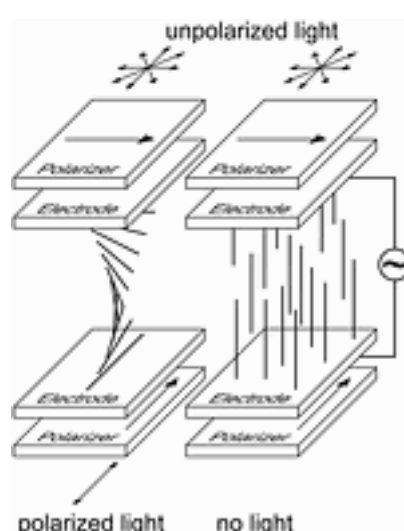

Figure 1. Basic
Properties of liquid crystal materials were discovered in 1888 by an Austrian botanist, F. Renitzer. These materials were not suitable for commercial use however. The first nematic crystals which retained their properties even at room temperatures were developed in the 1960s, but the real breakthrough came when cyanobiphenyl materials were discovered. These have large positive dielectric anisotropy and a strong birefringence, which makes them almost ideal for the twist cell. The most common LCD is called the twisted nematic (TN) display. This display consists of a nematic liquid crystal sandwiched between two glass plates. The inner glass surfaces are coated with a transparent metal oxide film which acts as an electrode used to apply voltages across the cells. A polymer alignment layer is placed on top of the electrodes and microscopic grooves are created in it during the manufacturing process, which force the crystal molecules to align in parallel to the grooves. A layer of polymer spacer beads is eventually applied to one of the glass plates to maintain uniform gap between the two, the plates are placed together and the edge is sealed with epoxy. A small hole is left in the epoxy and the liquid crystals are injected between the plates through this hole under a vacuum. After the hole is sealed, polarisers are applied to top and bottom surfaces of the display. In TN displays the alignment layers and polarisers are created perpendicular to each other, which forces the crystal molecules to twist by 90° under no voltage conditions - see left side of Figure 1.
The light entering the display from the top is polarised by the top polariser and as it travels through the liquid crystals its polarisation rotates with the molecules. When it emerges, its polarisation has been changed by  $90^\circ$  and it passes through the bottom polariser. However, when a voltage is applied to the electrodes, the molecules will arrange vertically - see right side of Figure 1. In this case polarisation of the light passing through the liquid crystals remains unchanged and is blocked by the bottom polariser.